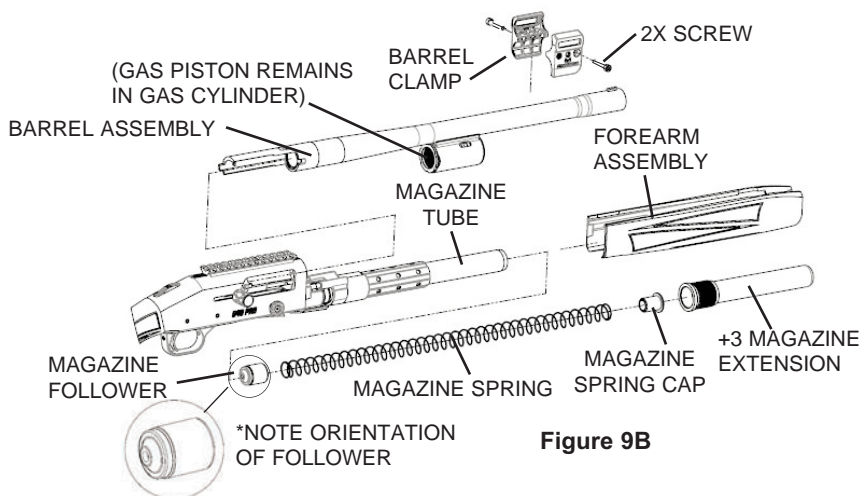

Figure 9B
The action assembly of your model 940™ may be fitted with a +3 magazine extension. If this resembles your model as shown in Figure 9B, follow the procedure below for barrel re-assembly.
2. Unscrew the magazine extension (Figure 9B). **CAUTION: The magazine spring is under considerable pressure and is retained by the magazine extension. The magazine spring will extend to its full length when the magazine extension is removed.**
5. Pull the barrel forward, free of the receiver and magazine tube. Ensure the gas piston remains in the gas cylinder or the barrel will bind (Figure 9B).